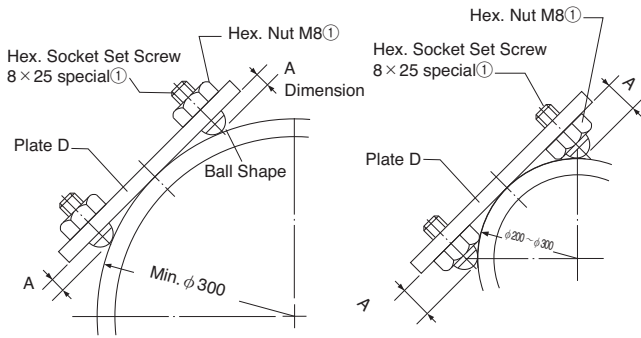

Fig. 13
The tool can be used on the workpieces at the minimum diameter of 300mm by adjusting dimension A of both Hex. Socket Set Screws (8 × 25 special) ① in either direction. (Fig.13)
Chamfering on an outer diameter of O.D. 200mm – O.D. 300mm can done by placing the Hex. Nut on the other side of Plate D. (Fig.13, 14)